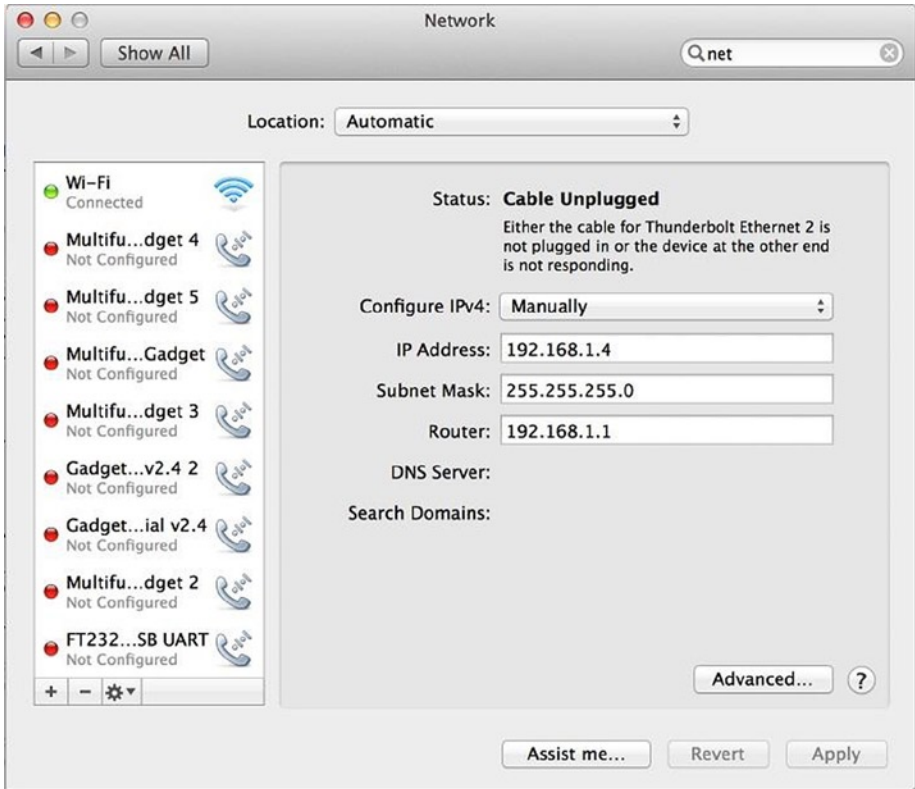

Figure 5-16. Configuring the IP statically on MacOSX
3. Change the Configure IPv4 listbox to Manually and then add the IP address, the subnet mask, and the gateway. Note that the gateway is named Router. Figure 5-16 shows an example.